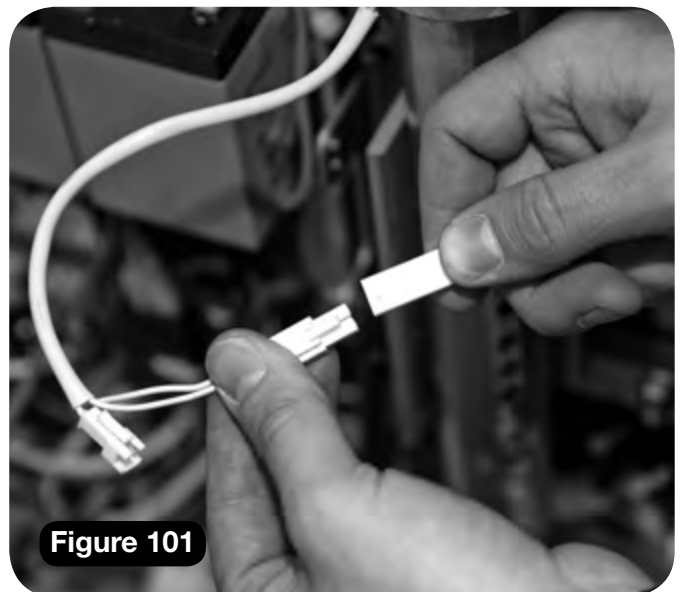

Figure 101
- d Connect the seat to the swivel switch loom connector (white) (**Figure 101**).